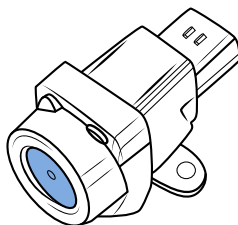

Figure 12 - Impact detector
2. Locate the impact detector on the firewall and press the button (**Figures 12 and 13**).